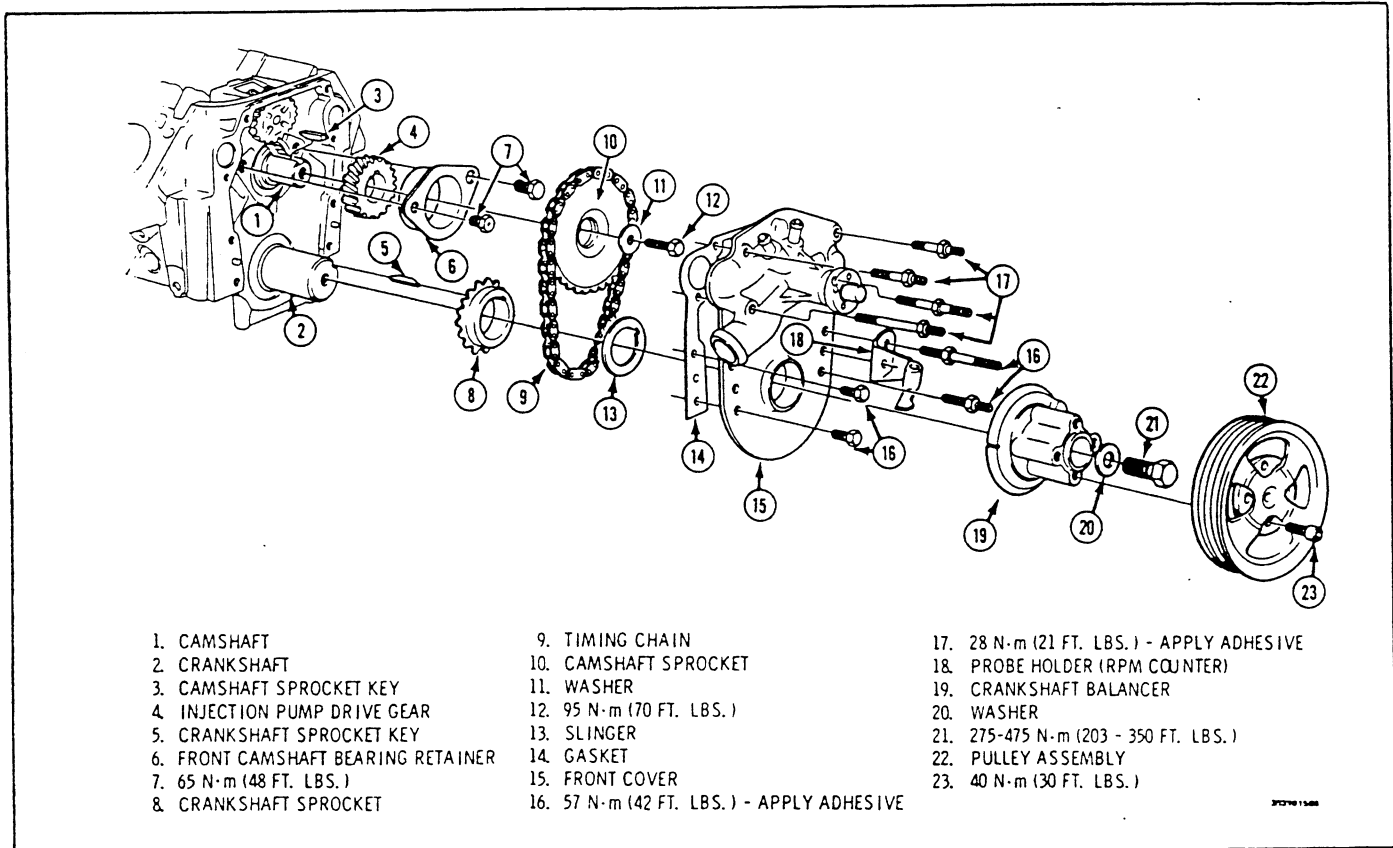

Fig. 48 - Front End of Engine
10. Timing chain and sprockets (Fig. 48)